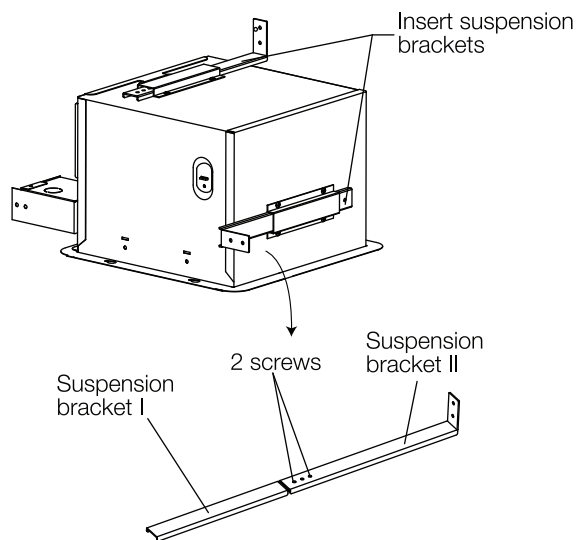

Fig. 1
1. Insert the suspension bracket into the fan body. If spacing between joists is 21 ¼" to 23 ½" (54 cm to 59.7 cm) connect suspension brackets I and II (Fig. 1).